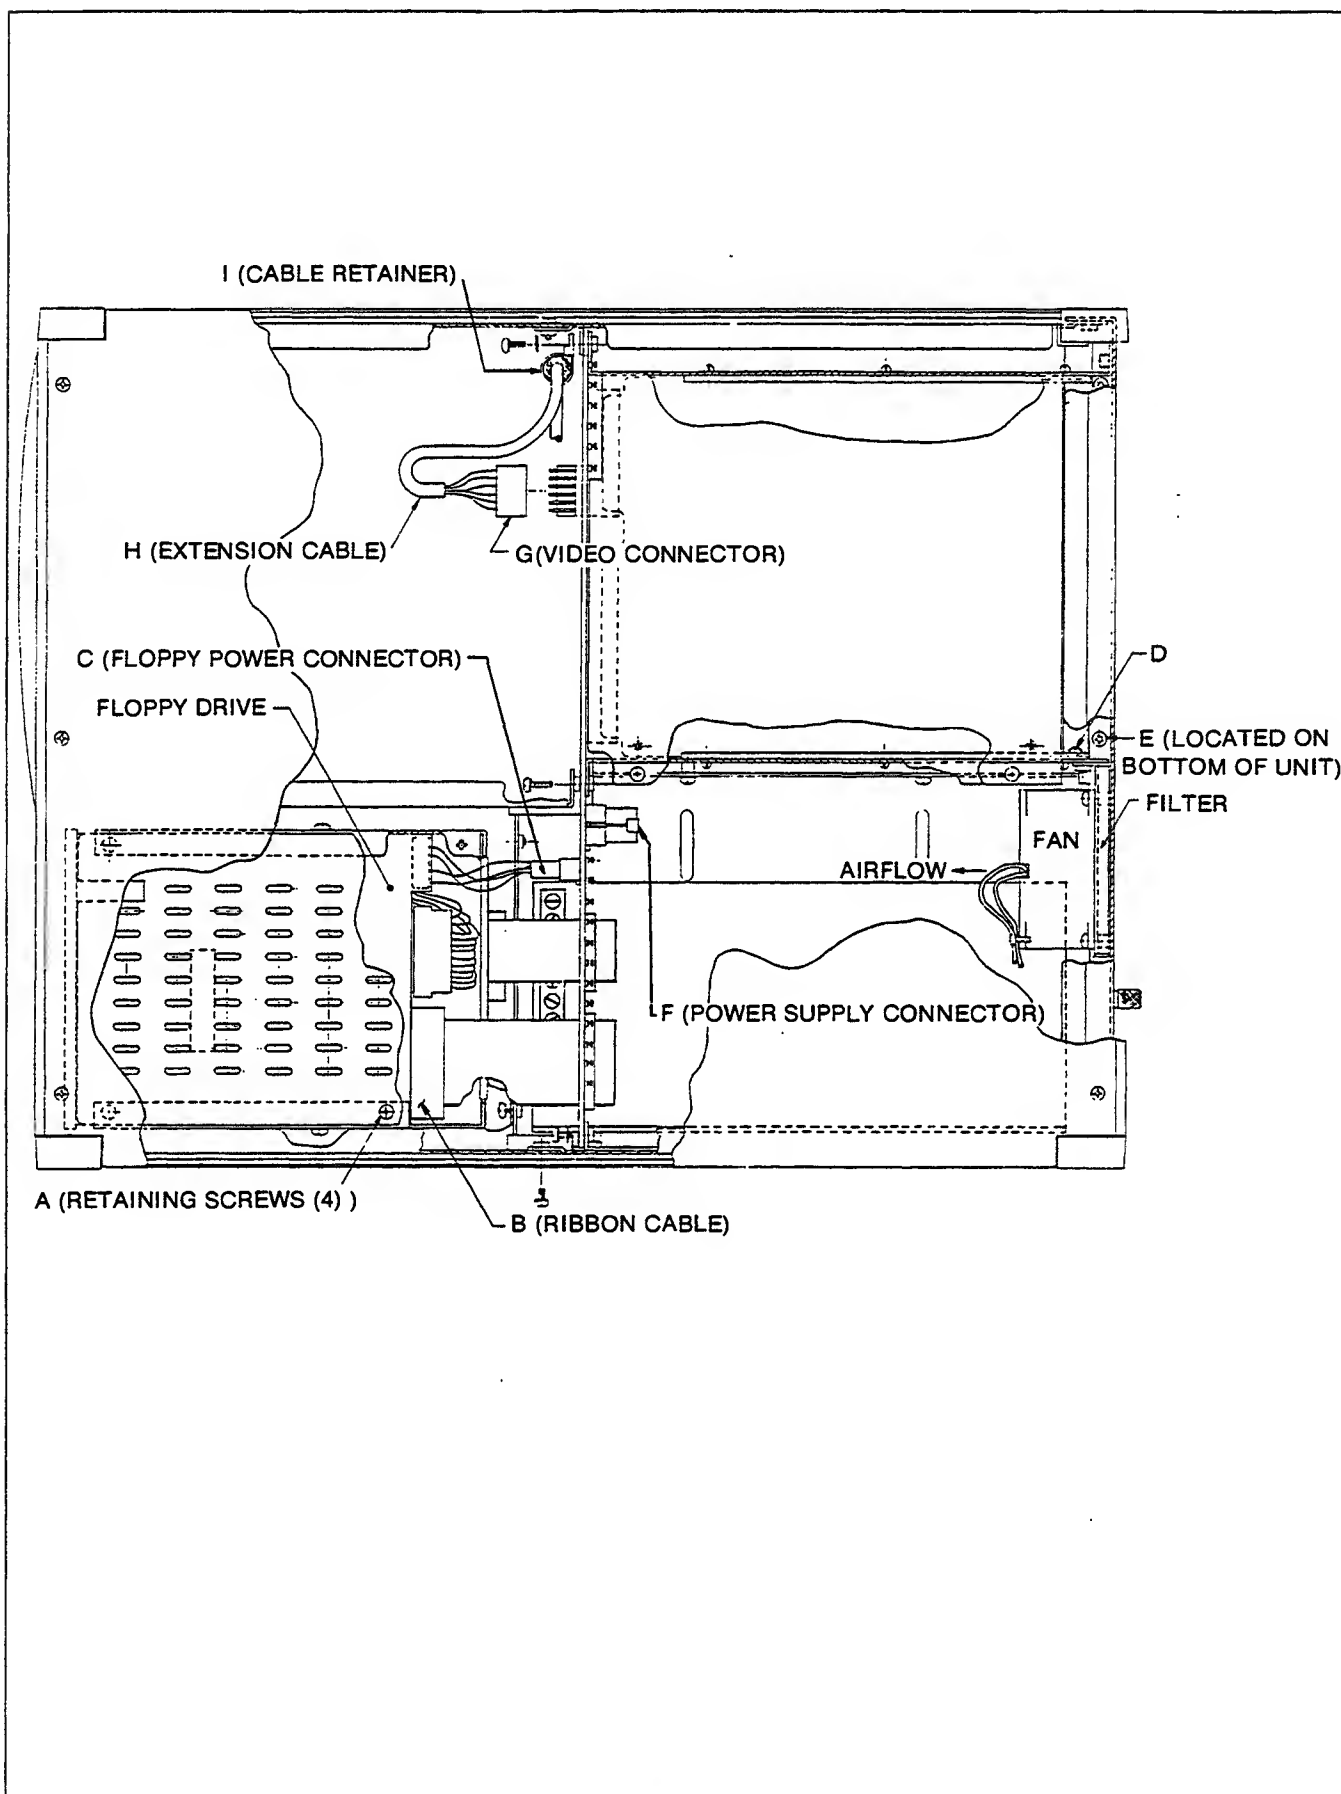

Figure 3-13. Top View of 1722A (Old Chassis)
3-74. Disk Drive Access (Old Chassis, Figure 3-13)
2. Refer to Figure 3-13. Unplug the disk drive power connector (C) at the motherboard.
3. Remove the four retaining screws (A) from the top cover of the disk drive and remove the cover to gain access to the card edge connector.
4. Unplug the ribbon cable (B) at the card edge connector.
7. Referring to Figure 3-13, remove the two screws (D) from the left card-cage wall. The screws are immediately inside the opening.
8. Remove the single screw (E) from the bottom flange of the rear panel.
4. Referring to Figure 3-13, unplug the connector (F) labeled POWER SUPPLY from the motherboard.